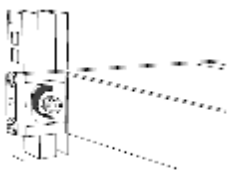

Figure 16 Tightening the thumbscrews
- Secure the Switch 116 IP to the rail by inserting the thumbscrews through the bracket and into the rail and tightening them, see Figure 16.